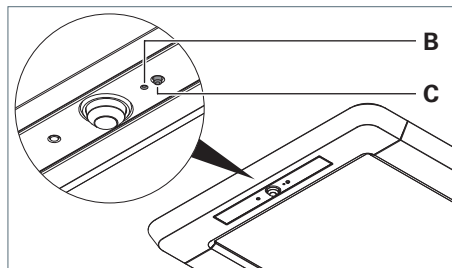
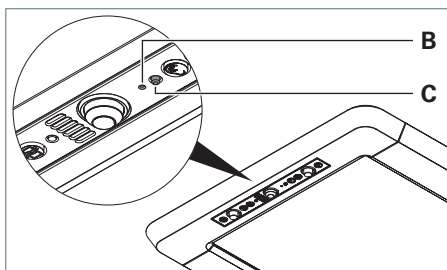

Fig. 26: Assigning the control element, version R.
Fig. 27: Assigning the control element, version RX.
- ▶ Press the key in the opening **B** with the end of opened paper clip, see Fig. 26 and see Fig. 27.
- ▶ Press the key **C**, see Fig. 26 and see Fig. 27.
- Press the key **C**, see Fig. 26 and see Fig. 27.
- Press the key **C** and keep this key pressed, see Fig. 26 and see Fig. 27.